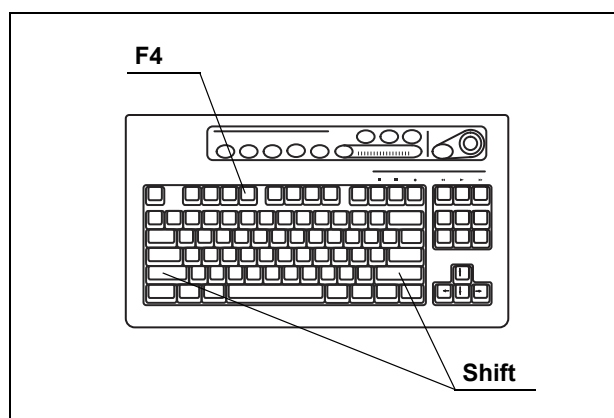
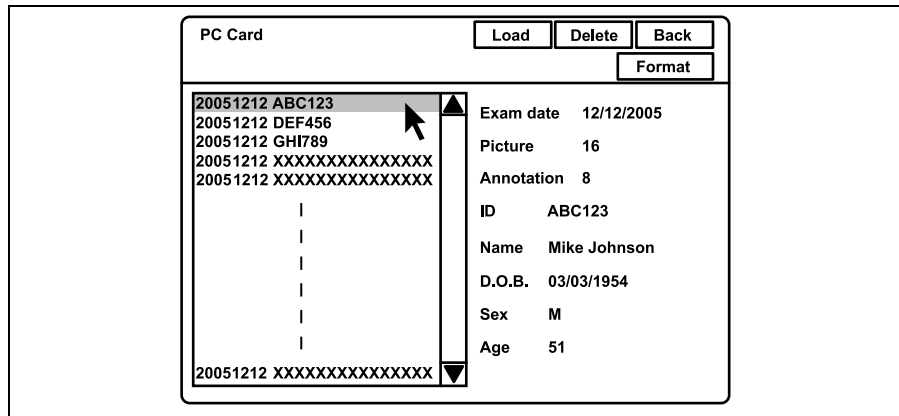

Figure 5.60
Figure 5.61
2. Press the “Shift” and “F4” keys together (see Figure 5.60). The message “Please wait” is displayed on the monitor, then the folder list screen appears (see Figure 5.61).